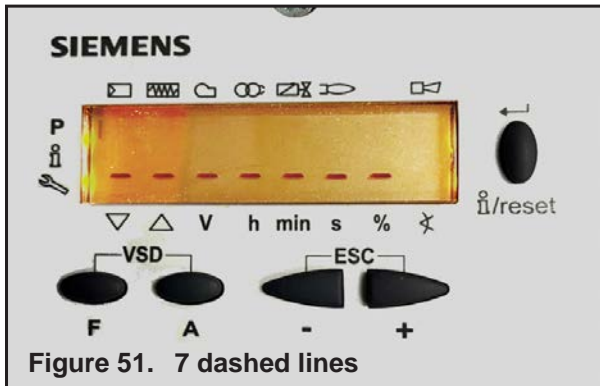

Figure 51. 7 dashed lines
- E. The controller will display 'CODE' and then seven (7) dashed lines will appear as shown in Figure 51.